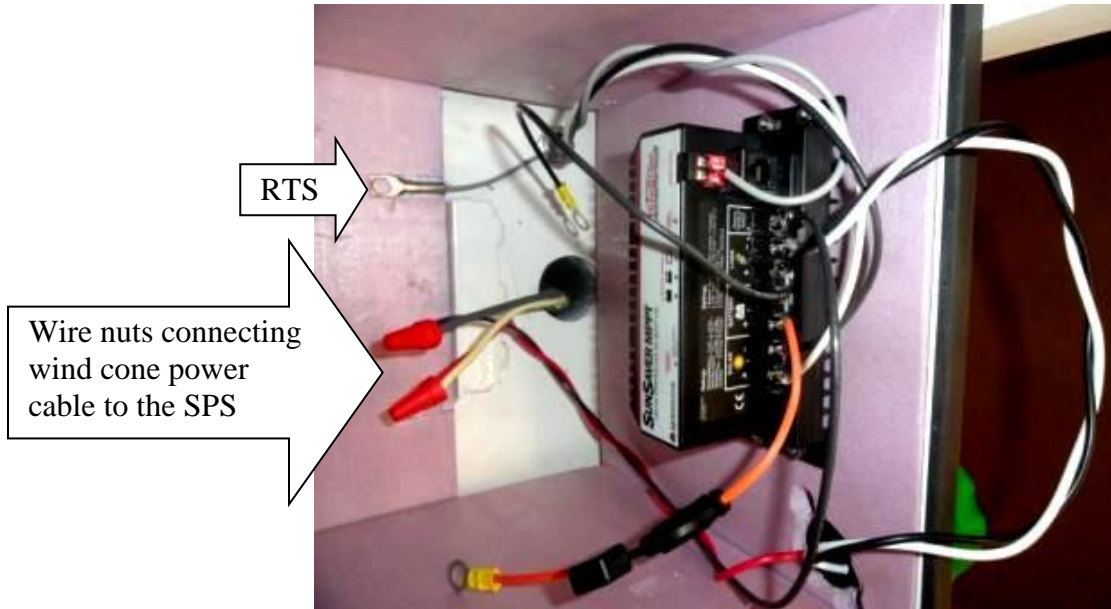

Figure 5. Power Cable Wiring
1. Locate the power cable from the wind cone, inside the battery enclosure, as shown in Figure 5.